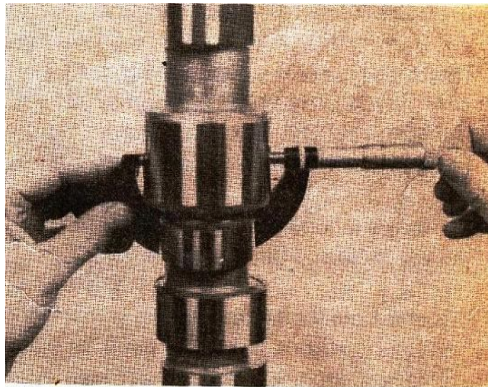

Fig. 1-41. Miking the camshaft journal
Measure the camshaft bushing journals with micrometers Fig. 1-41. Replace the camshaft if the journals are worn beyond the limits given in Table1-1 (14).